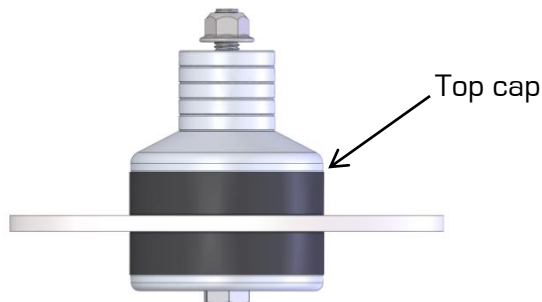

Figure 3: Bottom spacer moved to top-1/4" higher.
**To Lower the Engine:** In order to lower the engine height, remove the desired number of spacers from the engine mount isolator assemblies (Figure 3). Each spacer is 1/4" tall, so the engine can be lowered up to 1" in 1/4" increments.